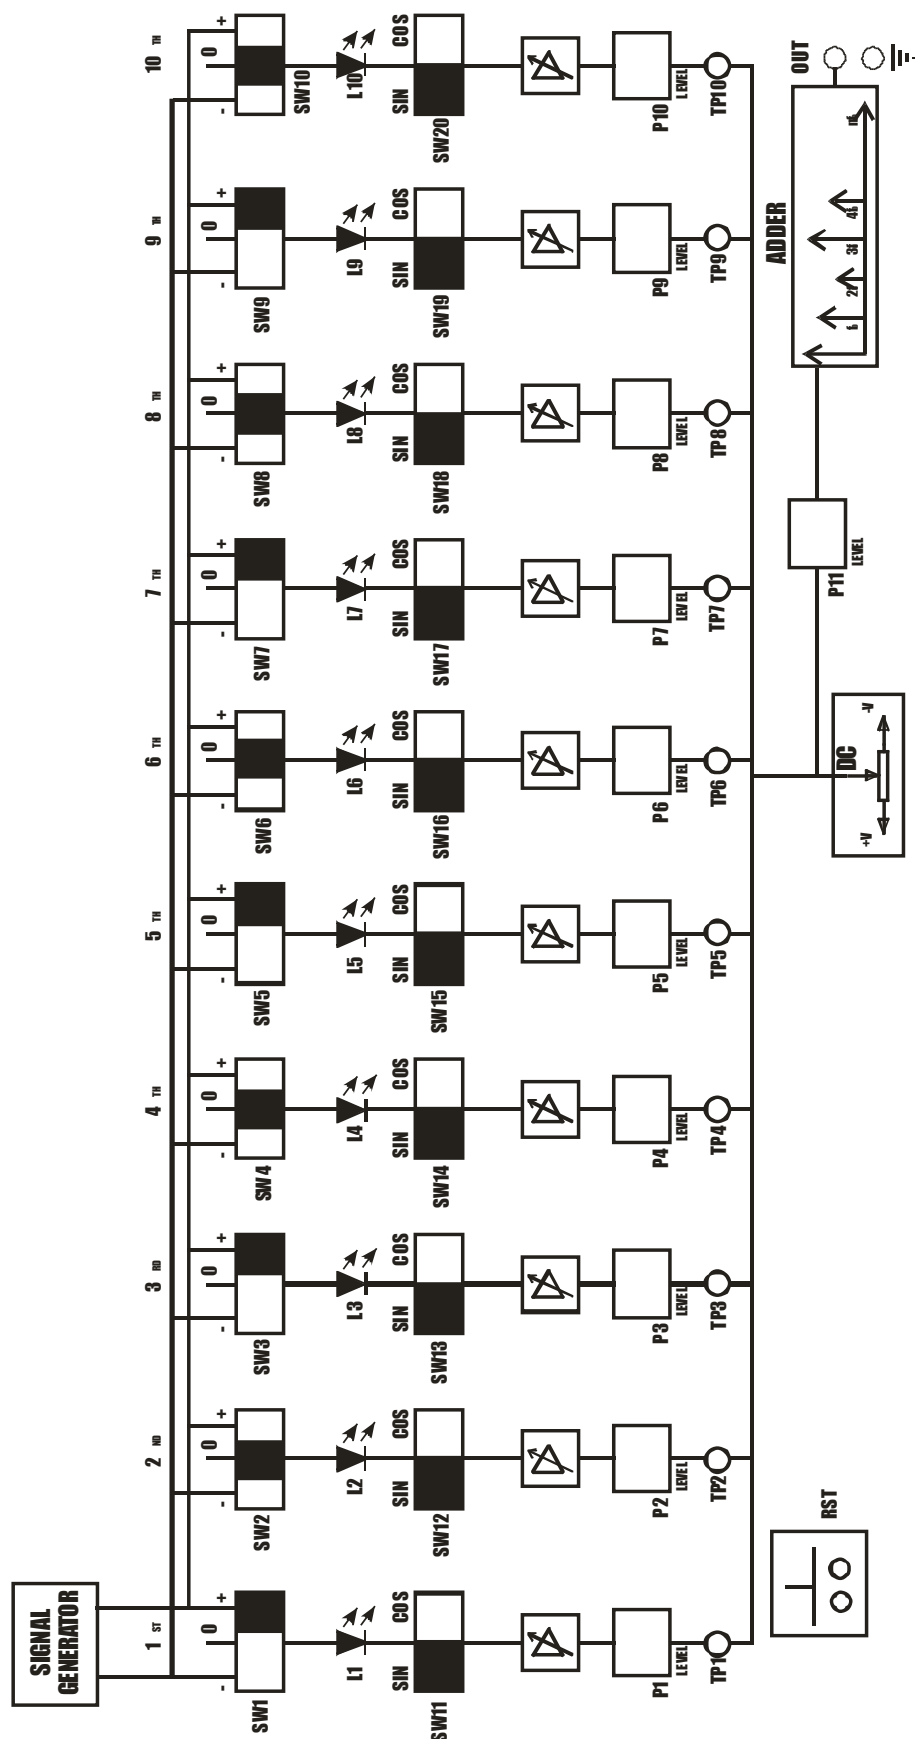

FIG. 1.1
- by referring fig.1.1 set Odd harmonics (1/3/5/7/9): three-way switches “-/0/+” on “+” and three-way switches “sin/cos” on “sin”